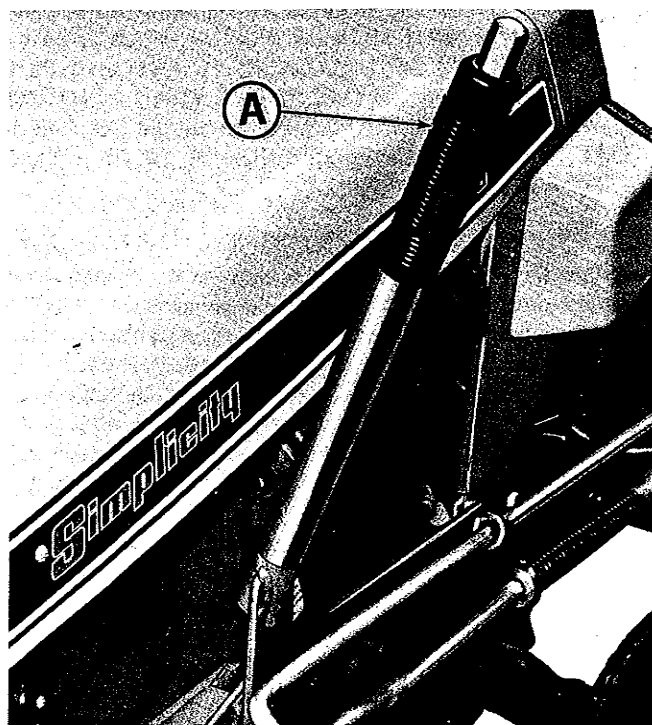

Figure 4. Dual lift lever.
**DUAL LIFT LEVER: (OPTIONAL)** (Figure 4, item A) The dual lift lever provides a convenient means of operating a front mounted attachment such as a snow thrower or a snow plow and dozer blade independently of center or rear mounted attachments. A good example is if you wish to use the rotary tiller and the snow plow and dozer blade in preparing a seed bed. Both attachments can be mounted to the tractor at the same time, and the operator can conveniently raise or lower each of them from the tractor seat.